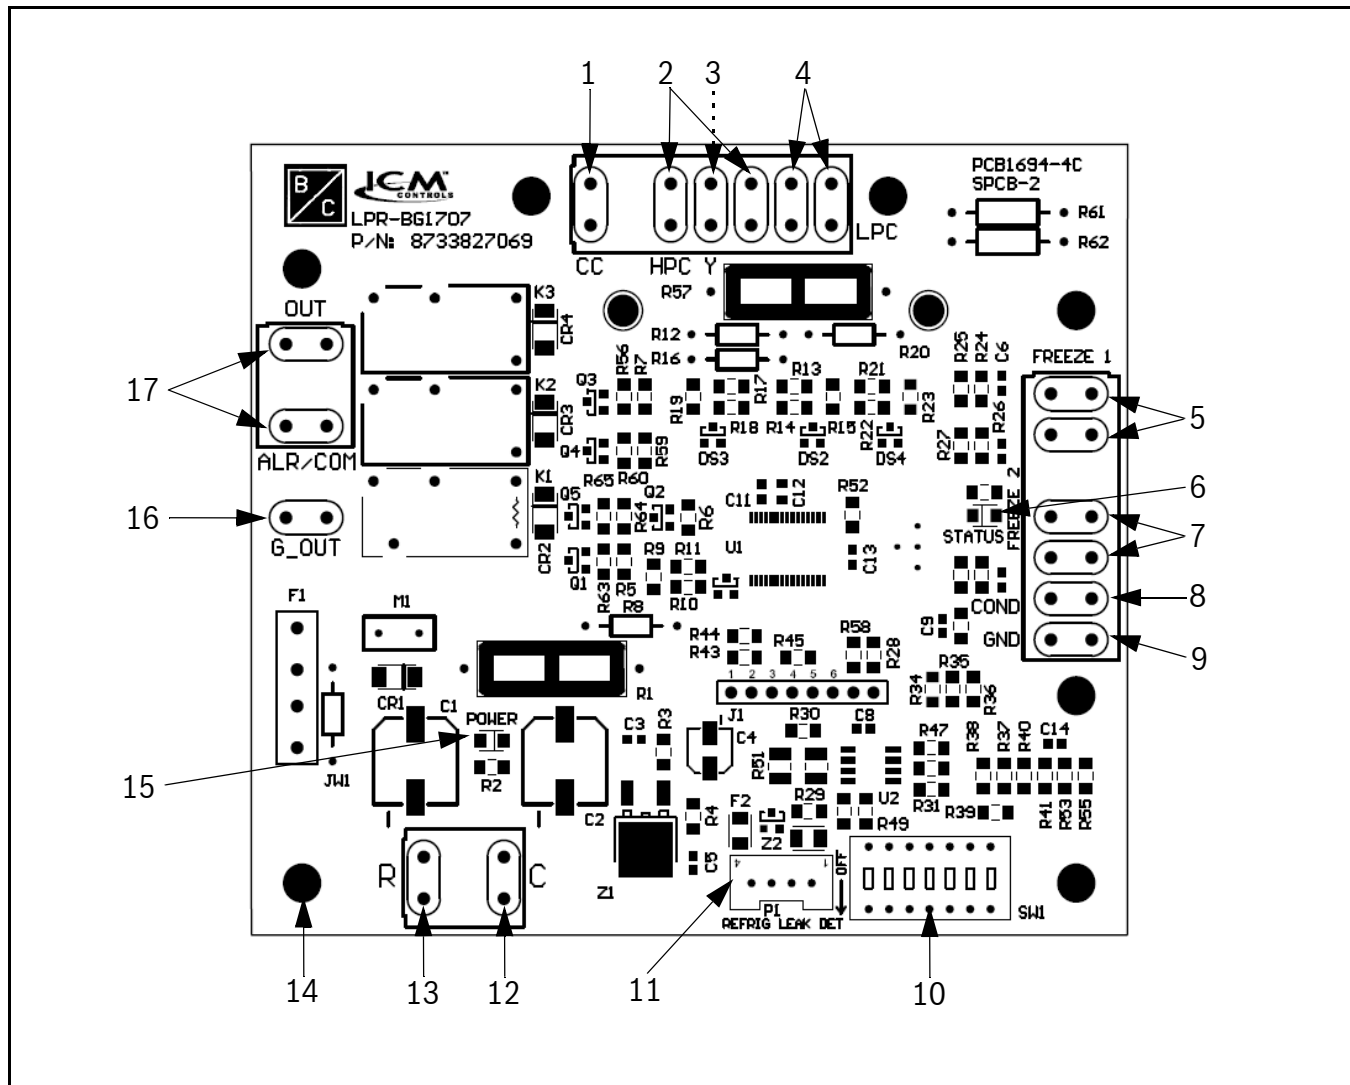
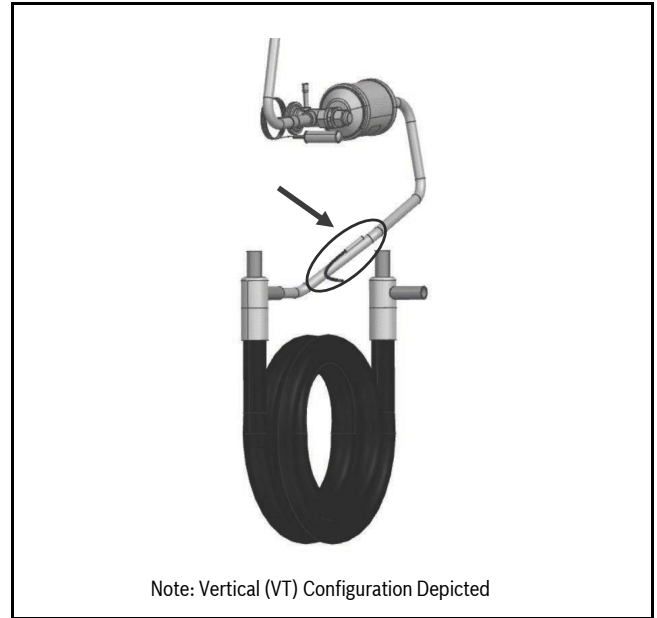
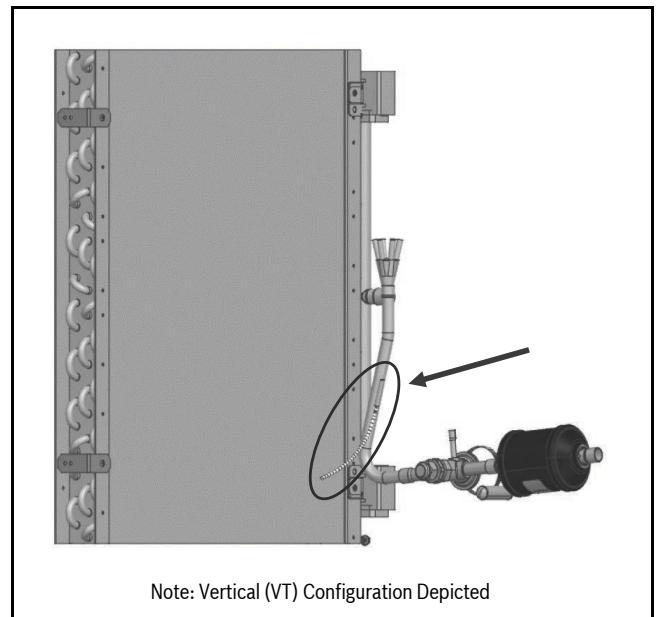
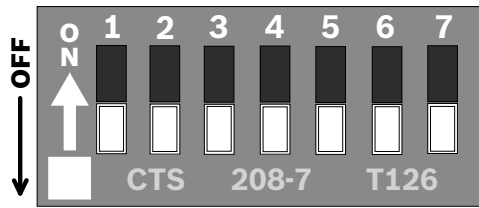

Fig. 18 UPM Controller Board
Fig. 19 Waterside Freeze Protection Sensor Location (FREEZE 1)
Fig. 20 Air Coil Freeze Protection Sensor Location (FREEZE 2)
Fig. 21 UPM Settings DIP Switch (SW1)
- Waterside freeze protection sensor (FREEZE 1), mounted close to condensing water coil (→Refer to Fig. 19), monitors refrigerant temperature between condensing water coil and thermal expansion valve. If temperature drops below or remains at freeze limit trip for 120 seconds, the controller will shut down the compressor and enter into a soft-lockout condition. The default freeze limit trip is 25°F; however, this can be changed by flipping DIP switch SW1. (→Refer to Fig. 18, item [10].)(→Refer to Fig. 21.)
- Air coil freeze protection sensor (FREEZE 2), mounted between the thermal expansion device and the air coil (→Refer to Fig. 20), monitors refrigerant temperature between the air coil and thermal expansion valve. If temperature drops below or remains at the freeze limit trip for 120 seconds, the controller will shut down the compressor and enter into a soft-lockout condition. The default freeze limit trip is 25°F.
- The condensate overflow protection sensor is located in the drain pan of the unit and connected to the “COND” terminal on the UPM board. (→Refer to Fig. 18, item [8].)
- **TEST DIP SWITCH:** The DIP switch position “4” controls the Test function. When it is set to “ON,” it will reduce all time delays settings to 10 seconds during troubleshooting or verification of unit operation. (→Refer to Fig. 18, item [10].) (→Refer to Fig. 21.)(→See Table 10.)
- **LOW-PRESSURE BYPASS TIMER:** If the compressor is running and the low-pressure switch opens, the controller will keep the compressor ON for 120 seconds. After two minutes if the low-pressure switch remains open, the controllers will shut down the compressor and enter a soft lockout. The compressor will not be energized until the low-pressure switch closes and the anti-short cycle time delay expires. If the low-pressure switch opens two or four times in one hour, the unit will enter a hard lockout. In order to exit a hard lockout, power to the unit would need to be reset. The reset signal is either a Y or R signal depending on if DIP switch position “2” is set to ON or OFF. (→Refer to Fig. 21.)(→See Table 10.) If it set to ON, the board must be manually powered OFF and powered back ON to exit the hard lock out.
- **MALFUNCTION OUTPUT:** Alarm output is Normally Open (NO) dry contact. If pulse is selected the alarm output will be pulsed. The fault output will depend on the DIP switch setting for "ALARM." (→Refer to Fig. 21.)(→See Table 10.) If DIP switch position “3” is set to “ON,” a constant signal will be produced to indicate a fault has occurred and the unit requires inspection to determine the type of fault. If it is set to “OFF,” a pulse signal is produced and a fault code is detected by a remote device indicating the fault. (→For blink code explanation, see Table 11.) The remote device must have a malfunction detection capability when the UPM board is set to "PULSE."
- FREEZE SENSOR:** The default setting for the freeze limit trip is 25°F (FREEZE 1); however, this can be changed to 15°F by flipping the DIP switch position “5” (→Refer to Fig. 18, item [10]) (→Refer to Fig. 21), freeze limit trip should only be changed to 15°F when a closed loop system with appropriate antifreeze mixture is used. **Since Freeze Sensor 2 is dedicated to monitoring the load side coil, it is recommended to leave the factory default setting on the board.** The UPM controller will constantly monitor the refrigerant temperature with the sensor (FREEZE 1) mounted close to the condensing water coil between the thermal expansion valve and the water coil. If the temperature drops below or remains at the freeze-limit trip for 120 seconds, the controller will shut the compressor down and enter into a soft-lockout condition. Both the status LED and the alarm contact will be active. The status LED will be active, blinking the fault code. The LED will flash (three times) the code associated with this alarm condition. If this alarm occurs two times (or four if DIP switch position “1” is set to “ON”) within an hour, the UPM controller will enter into a hard-lockout condition. It will constantly monitor the refrigerant temperature with the sensor (FREEZE 2) mounted close to the air coil between the thermal expansion valve and air coil, as shown in Fig. 20. If the temperature drops below or remains at the freeze limit trip for 120 seconds, the controller will shut the compressor down and enter into a soft-lockout condition. Both the status LED and the alarm contact will be active. The status LED will be active,
blinking the fault code. The LED will flash six times the code associated with this alarm condition. If this alarm occurs two times (or four times if DIP switch position “1” is set to “ON”) (→Refer to Fig. 21) (→See Table 10) within an hour, the controller will enter into a hard-lockout condition.
- INTELLIGENT RESET:** If a fault condition is initiated, the five-minute delay on break time period is initiated and the unit will restart after these delays expire. During this period the fault LED will indicate the cause of the fault. If the fault condition still exists or occurs two or four times (depending if the Lockout DIP switch position “1” is set to “OFF” or “ON”) (→Refer to Fig. 21) (→See Table 10) before 60 minutes, the unit will go into a hard lockout and requires a manual lockout reset.
- To clear a hard lockout when the DIP switch position “2” is set to “OFF” (Y), power can be cycled OFF then back ON either at the unit’s thermostat or at the circuit breaker.
- To clear a hard lockout when the DIP switch position “2” is set to “ON” (R), power must be cycled OFF then back ON at the circuit breaker (not at the thermostat). (→Refer to Fig. 21.) (→See Table 10.)
- PUMP DIP SWITCH:** When DIP switch position “7” is set to “ON” and no Y call has been received in the past 8 hours, the compressor will have a delay of 30 seconds to allow a loop pump to circulate water before compressor starts. (→Refer to Fig. 21.) (→See Table 10.)